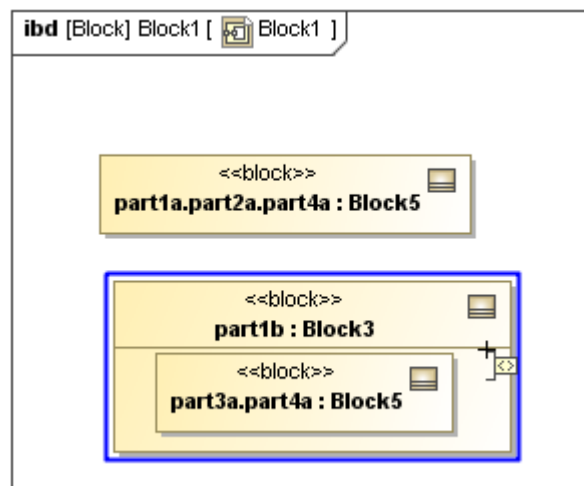

Figure 105 -- Flow Port Created on a Part
2. If you click the **Flow Port** button on the IBD toolbar, select a part where the flow port will be created (Figure 105). If you clicked the smart manipulator of the part, go directly to step 3.